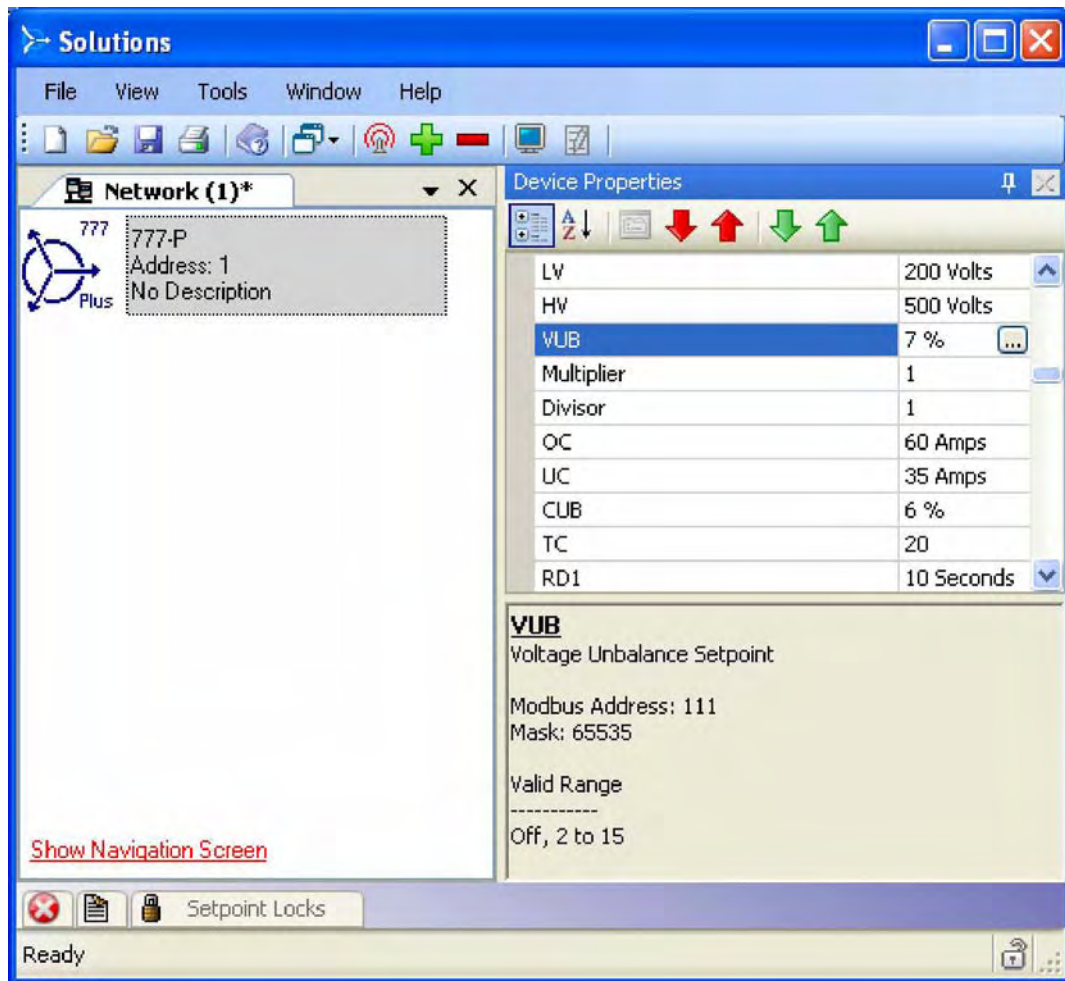

Figure 4-Modbus Parameters
Step 4. Click the desired device to edit the device parameters (see Figure 4 )